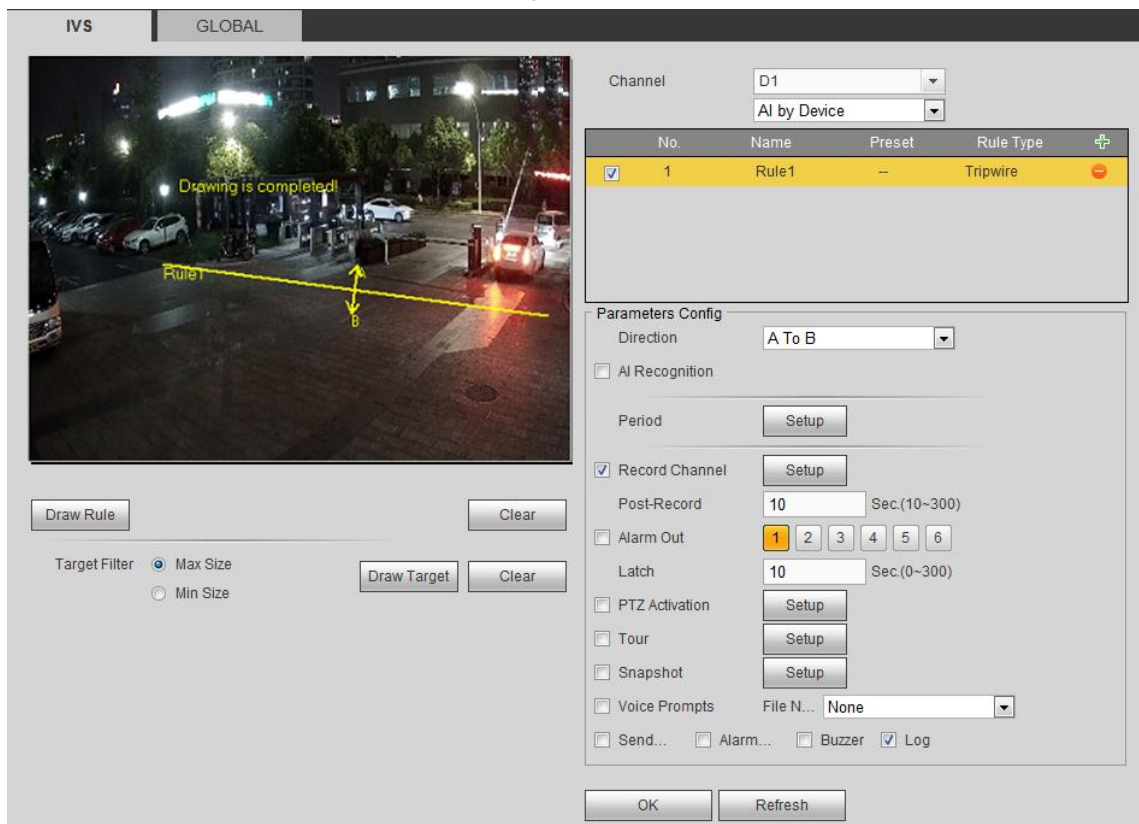

Figure 5-69
- When you select AI by NVR, the system displays as Figure 5-69.